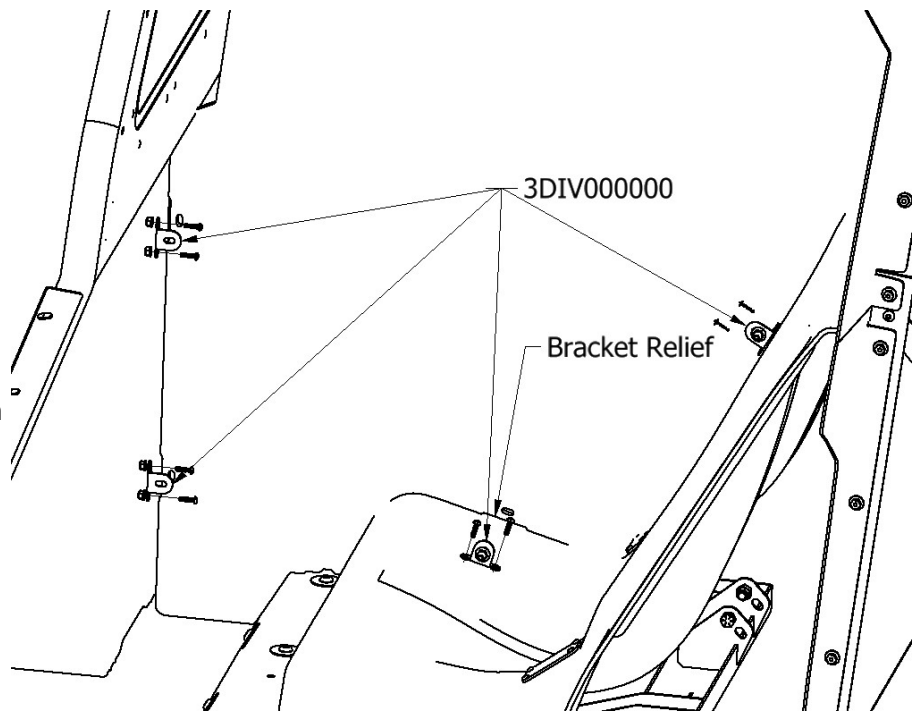

Figure 3
E. Now the divider should be placed inside the vehicle through the rear passenger side door and centered on the seat using the 2 brackets installed in the previous step. Once the divider is placed in location, use (3DIV000000) divider brackets to mark the seat and recess panel for drill hole locations. The locations of the brackets can be seen on fig. 3. The brackets are located on the seat and recess panel by the relief cuts on the divider.